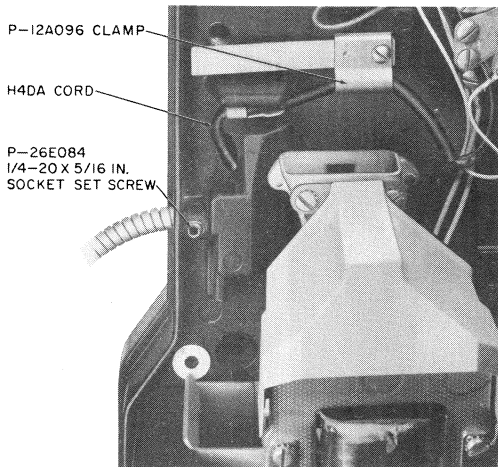

Fig. 17—Installation of Armored Cord
- (6) Clean metal shavings from the cord entrance hole.
- (7) Using the pull-in wire placed in step 2, pull in the new cord.
- (8) Remove the pull wire from new cord and fasten a P-12A096 clamp over the cord (Fig. 17).
- (9) A P-26E084 1/4-20 by 5/16-inch self-locking setscrew is used to secure the cord to the coin collector backplate (Fig. 17). A flat surface is located approximately 1/4-inch from the set end of the stainless steel flexible hose. Using a 1/8-inch Allen wrench, screw the socket setscrew into the hole drilled in step 4 until it just makes contact with the flat surface of the metal hose. Give the setscrew a minimum of 1/4 turn and a maximum of 1/2 turn. This should hold the cord firmly in the coin collector.